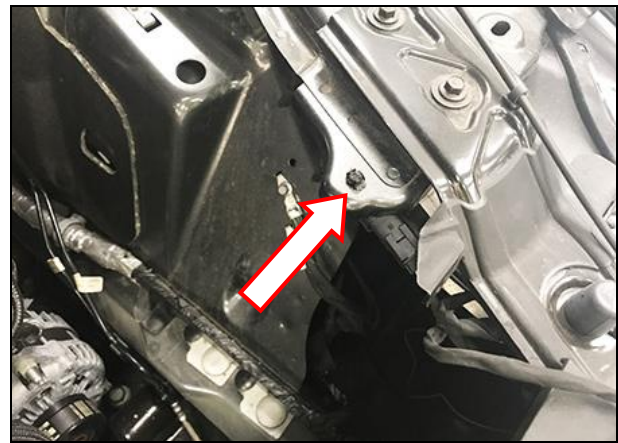

Figure 3
8. Relocate the terminated plug on the fender well to the location shown below (**Figure 3**).